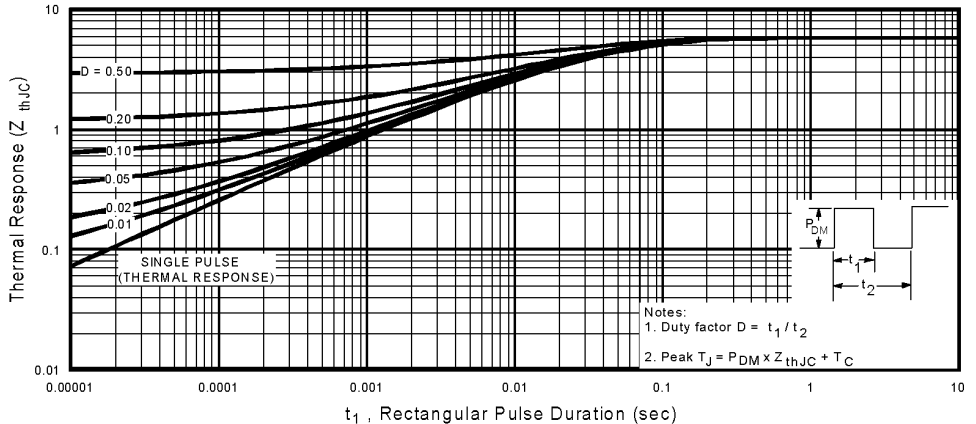

Fig 11. Maximum Effective Transient Thermal Impedance, Junction-to-Case
- ① Repetitive rating; pulse width limited by max. junction temperature. (See fig. 11)
- ② $V_{DD} = 25V$, starting $T_J = 25^\circ\text{C}$, $L = 790\mu H$